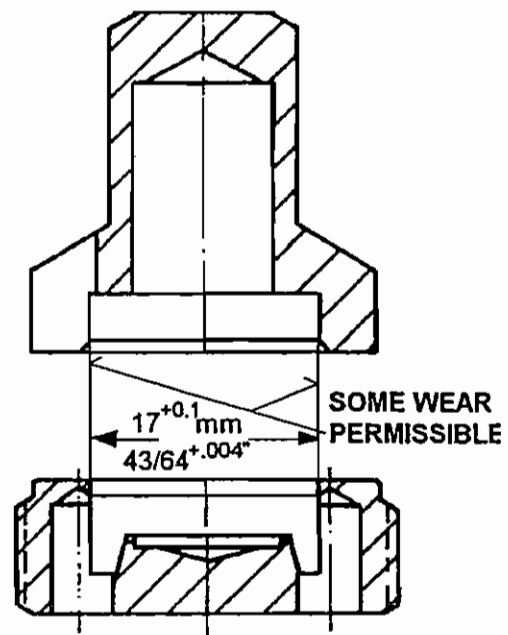

Fig. 11.7 Permissible tolerances, valve body and cover
- Check the tolerance of the inside diameter of the valve body (9). The valve body must not show any grooves at ID 17 + 0.1 mm. See fig. 11.7.
- The valve spring (8) is reusable if it shows no outside scuffing and the spring ends have not picked up on the next coil
- Check the tolerance of the inside diameter of the valve cover (16). It must not show any grooves at ID $17 + 0.1$ mm. See fig. 11.7.
- The valve spring (17) is reusable again if it shows no outside scuffing and the spring ends have not picked up on the next coil.
- Check the tolerance of the inside diameter of the valve body (8). The valve body must not show any grooves at ID $17 + 0.1$ mm. See fig. 11.7.
- The valve spring (7) is serviceable again if it shows no outside scuffing and the spring ends have not picked up on the next coil.
- Check the tolerance of the inside diameter of the valve body (8). The valve body must not show any grooves at ID 17 + 0.1 mm. See fig. 11.7.
- The valve spring (9) is reusable if it shows no outside scuffing and the spring ends have not picked up on the next coil.